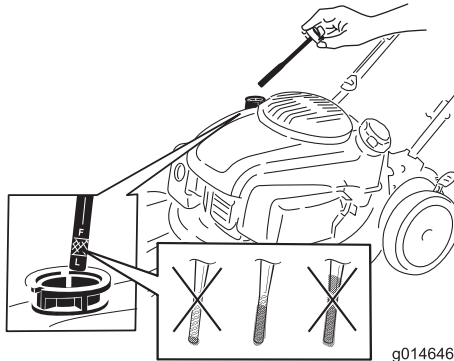

Figure 5
1. Remove the dipstick (Figure 5).
2. **Slowly** pour oil into the oil-fill tube until the oil level reaches the Full line on the dipstick (Figure 5). **Do not overfill.** (Max. fill: 0.53 L (18 oz), type: 10W-30 or SAE 30 detergent oil with an API service classification of SJ or higher.)
**Note:** Each time you check the oil level, remove the dipstick and wipe it clean, insert it into the oil filler neck (but **do not** screw it in), then remove it again and check the level (Figure 5).